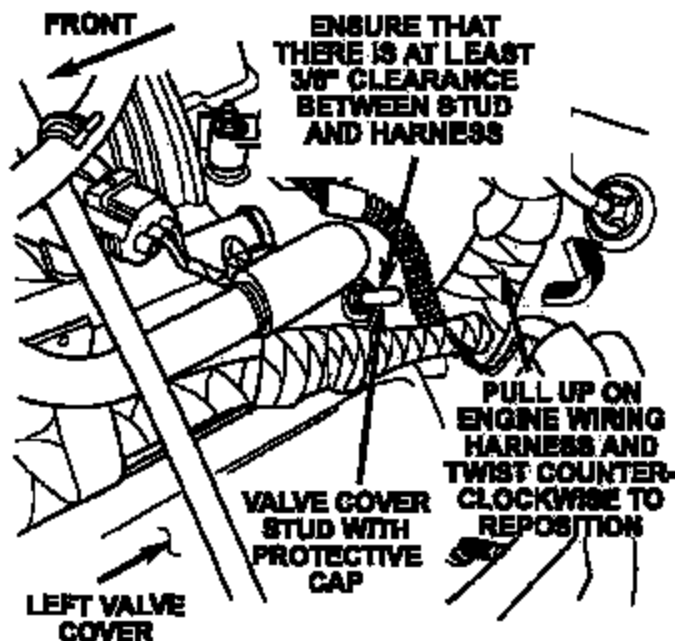

Figure 4
6. Grab the rear engine harness and gently pull it upward while applying a slight counter-clockwise twist to reposition the harness away from the stud (Figure 4). Make sure that there is at least 3/8" (10 mm) clearance between the harness and the stud.
7. Install the other protective cap over the stud on the left rear corner of the valve cover (Figure 4).